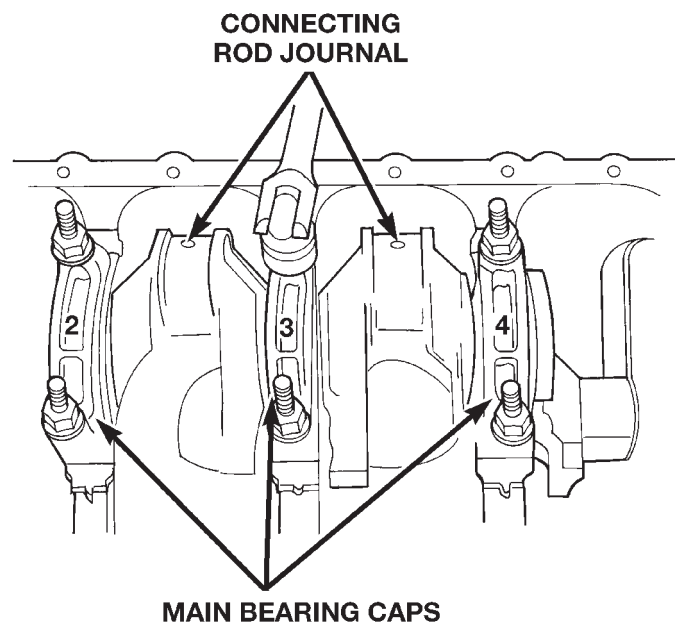

Fig. 54 Removing Main Bearing Caps and Lower Inserts
- (6) Remove only one main bearing cap and lower insert at a time (Fig. 54).